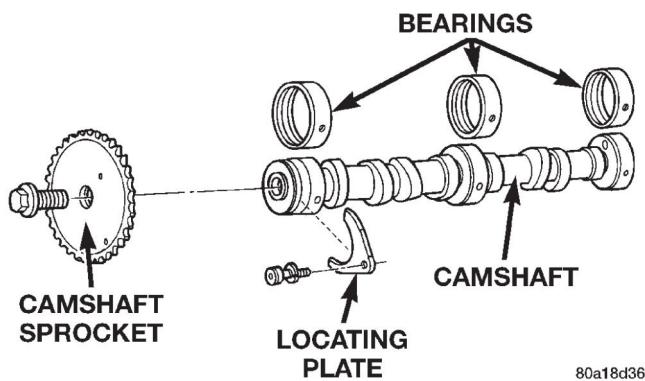

Fig. 50 Camshaft Assembly
(1) To service camshaft (Fig. 50) the engine must be removed from vehicle.
(2) Remove valve cover. Refer to valve cover removal in this section.
(3) Remove rocker arms and push rods. Identify push rods to ensure installation in their original location.
(4) Remove cylinder head. Refer to cylinder head removal in this section.
(5) Remove hydraulic tappets. Refer to tappet removal in this section.
(6) Remove vibration damper. Refer to vibration damper removal in this section.
(7) Remove power steering pulley.
(8) Remove pump shaft support bracket.
(9) Remove timing chain cover. Refer to timing chain cover removal in this section.
(10) Remove timing chain. Refer to removal procedure in this section.
(11) Install camshaft sprocket holding tool VM.1031 to lock the camshaft sprocket in place.
(12) Remove camshaft sprocket bolt and remove sprocket (Fig. 50).
(13) Remove locating plate, and reinstall sprocket and bolt finger tight.
(14) Remove camshaft.
- (1) With engine completely disassembled, drive out rear cam bearing core hole plug.
- (2) Install proper size adapters and horseshoe washers (part of Camshaft Bearing Remover/Installer Tool) at back of each bearing shell. Drive out bearing shells (Fig. 50).